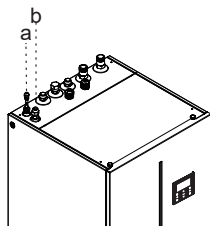

Fig.5-2
- If the indoor unit is matched with outdoor unit (4/6kW), the transfer 9.52-6.35 (Refer to the table in Page 8) should be mounted on the refrigerant liquid connection of indoor unit (Refer to Fig.5-2); The transfer is not used in other types of outdoor unit (8/10/12/14/16kW).